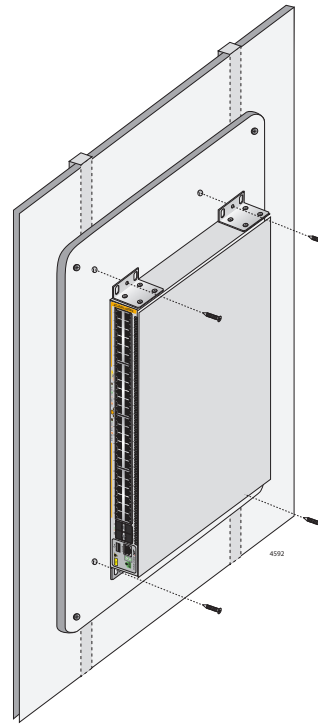

Figure 22. Installing the Switch on the Plywood Base
2. Install the switch on the plywood base. Refer to Figure 22.